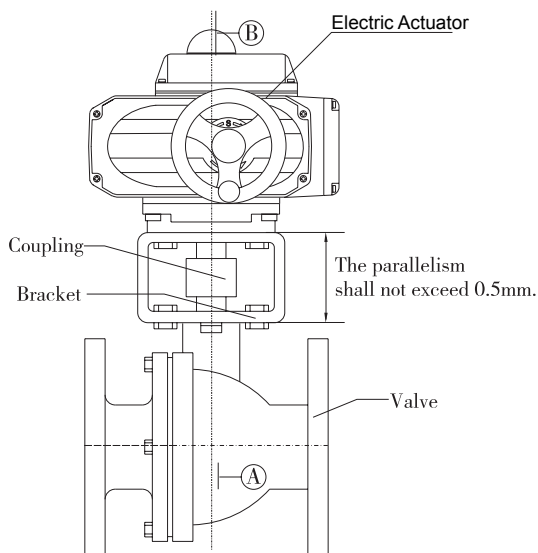

Figure 3
- If using your own bracket or one provided by third party supplier, ensure that the materials provided are manufactured professionally and meet the requirements of Figure 3.